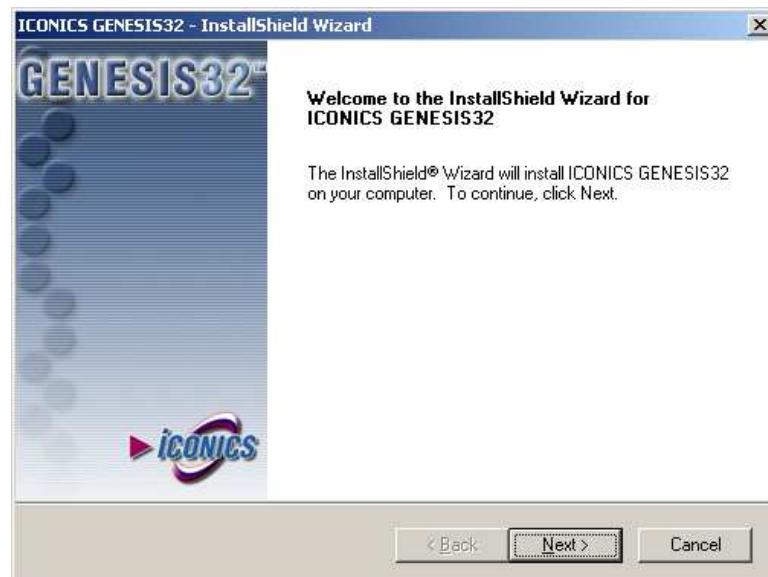

Figure L1.2 - Welcome Screen
3. You will then see a dialog in the lower-right corner preparing for the installation. Once that completes, you should see the Welcome screen as shown in Figure L1.2.